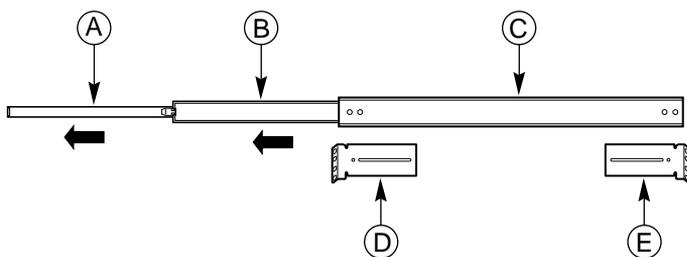

Figure 1 Slide Rail Assembly Fully Extended
As shown in Figure 1, each of the two slide rail assemblies contains three moving parts: the inner member, the intermediate member, and the outer member.
The slide rail kit contains four EIA brackets. Two brackets are labeled FL/RR. One is connected to the front left (FL) of the slide rail assembly; the other is connected to the rear right (RR). The remaining two brackets are labeled FR/RL. One is connected to the front right (FR) of the slide rail assembly; the other is connected to the rear left (RL). Figure 1 shows where the brackets are attached to one of the slide rail assemblies.
At this point, you have removed the inner member from the slide rail assembly. The outer and intermediate members comprise the assembly. This section explains how to attach the front and rear brackets. Note the location of the brackets in Figure 1.